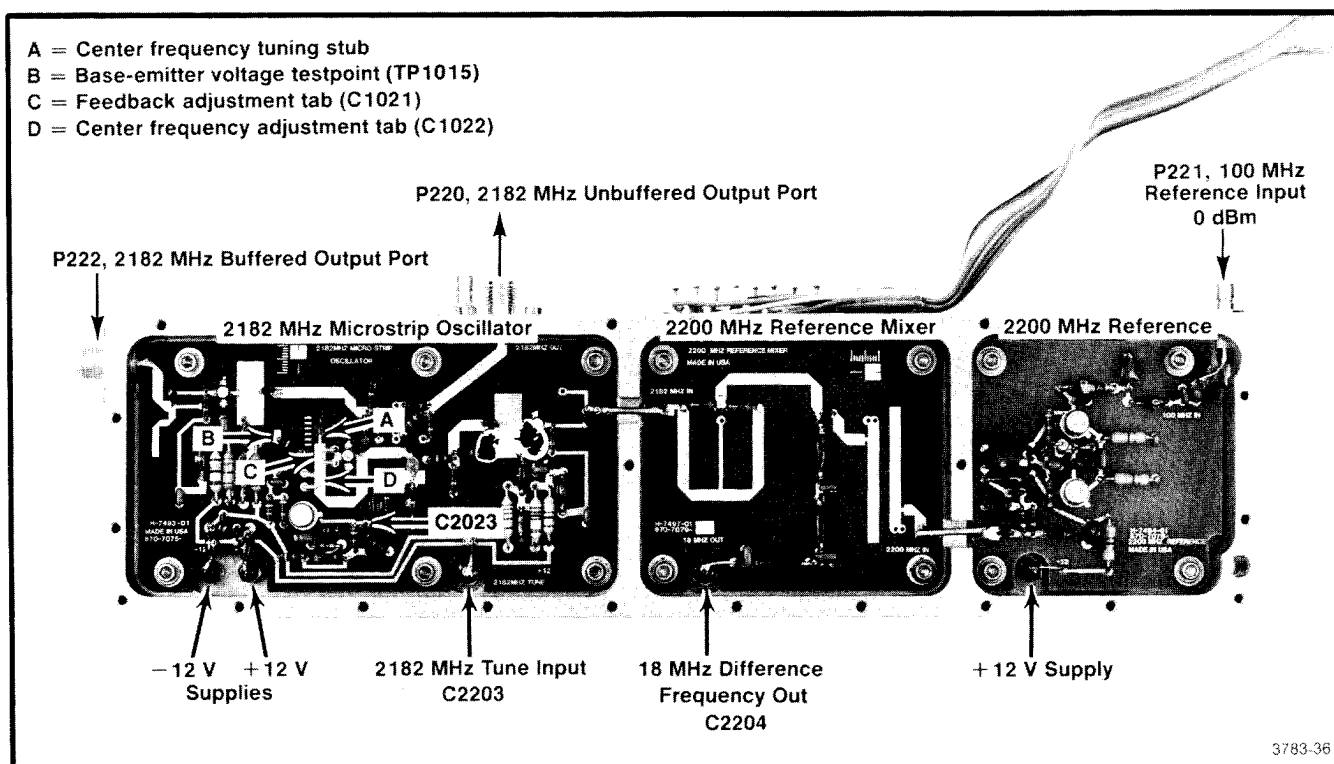

Fig. 4-19. Adjustments and test point locations within the oscillator section.
d. Install a 50 Ω terminator on the 2182 MHz buffered output port, P222, (see Fig. 4-19). Set the variable power supply to 0 V. Connect the plus (+) terminal to the 2nd LO housing and the negative (–) terminal to the exposed end of C2203 and L2031, through a 1 k Ω resistor.
2. Adjust and Check Oscillator Frequency (Refer to Fig. 4-19)